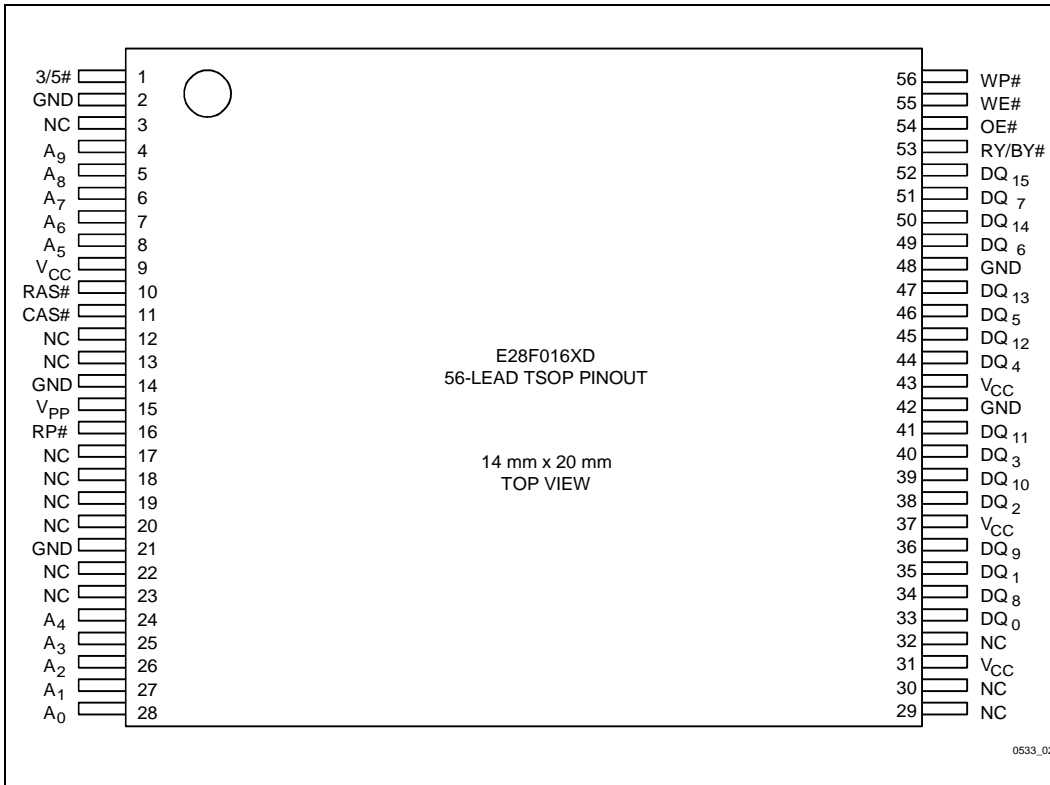

Figure 2. 28F016XD 56-Lead TSOP Type I Pinout Configuration
-003	<p>Added 3/5# pin to Pinout Configuration (Figure 2), Product Overview (Section 1.1) and Lead Descriptions (Section 2.1) Modified Block Diagram (Figure 1): Removed Address/Data Queues, Page Buffers, and Address Counter; Added 3/5# pin Added 3/5# pin to Test Conditions of I_{CC2} and I_{CC5} Specifications Modified Power-Up and Reset Timings (Section 5.9) to include 3/5# pin: Removed t_{5VPH} and t_{3VPH} specifications; Added t_{PLYL}, t_{PLYH}, t_{YLPH}, and t_{YHPH} specifications Corrected TSOP Mechanical Specification A1 from 0.50 mm to 0.050 mm (Section 6.0) Minor cosmetic changes throughout document.</p>
In addition, a significant 28F016XD change occurred between datasheet revisions 290532-002 and 290532-003. This change centers around the addition of a 3/5# pin to the device's pinout configuration. Figure 2 shows the 3/5# pin assignment for the TSOP Type 1 package.
The 28F016XD 56-Lead TSOP Type I pinout configuration is shown in Figure 2.